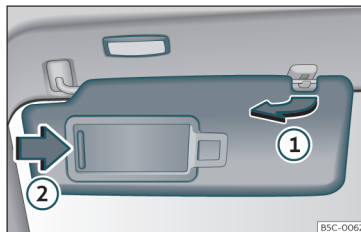

Fig. 98 Sun visor
- The sun visor can be pulled out of its mounting and turned towards the door >>> Fig. 98 ①.